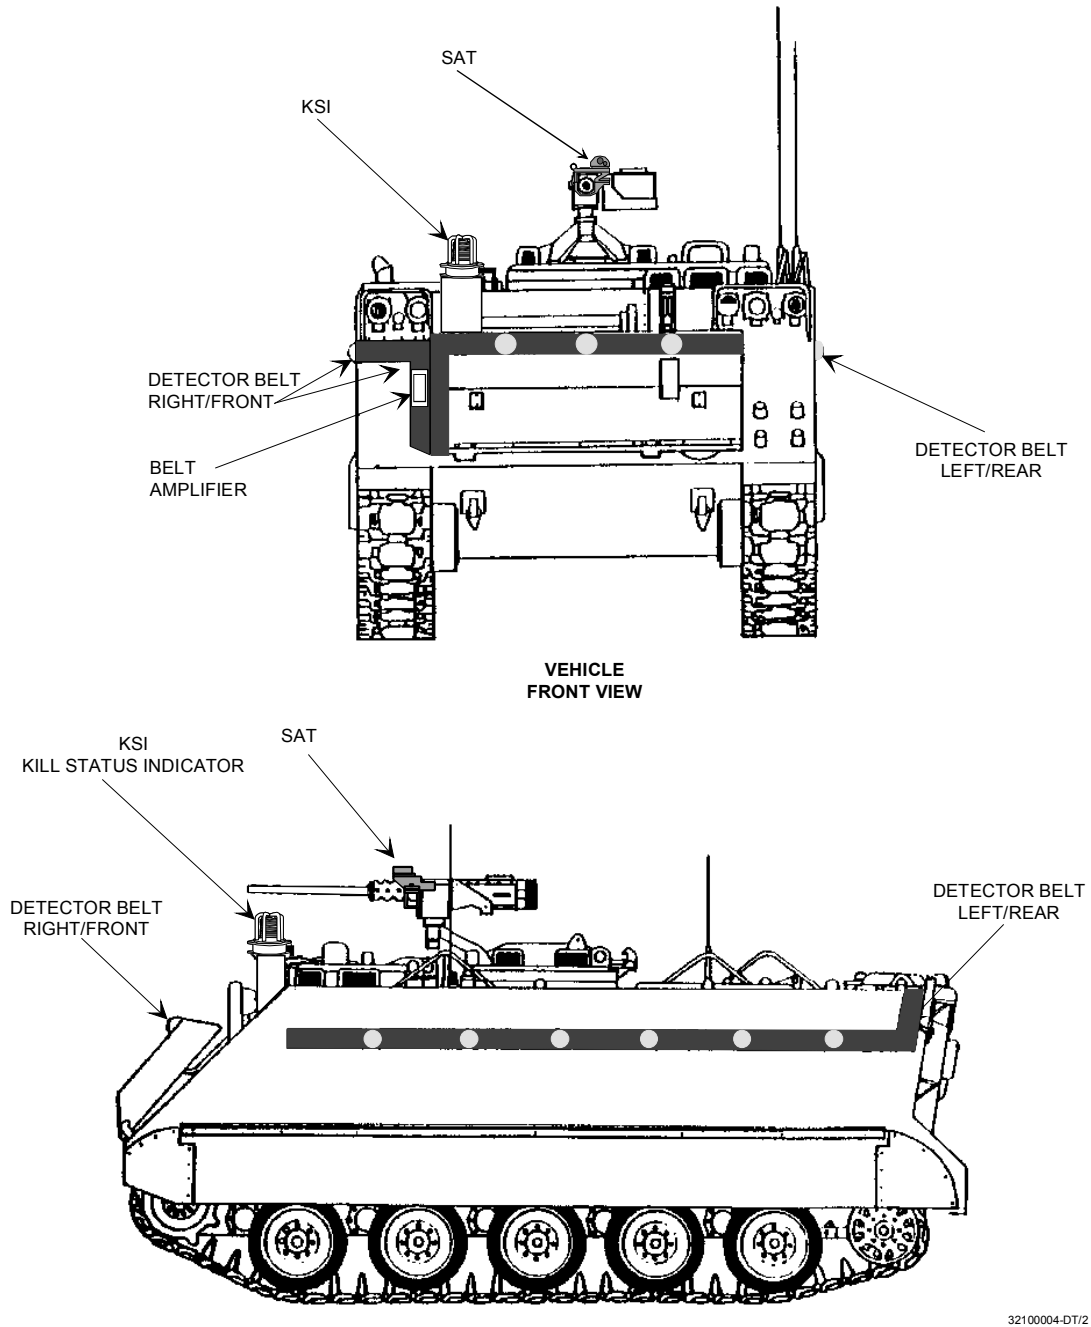

Figure 1-1. M113 Armored Personnel Carrier (APC).
1.11.2 Principles of Operation (M113 and M577). The M2 machine gun on the M113 is equipped with a laser transmitter that is fired using normal weapon operating procedures. The hull has detector belts attached that sense incoming fire. A Control Unit (CU) mounted inside determines the extent of incoming fire and its effect. The Kill Status Indicator (KSI) is activated by the CU when incoming fire is detected. (See Figure 1-1.)